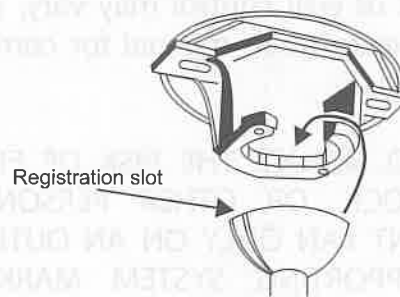

Figure 7
**Step 8.** Place the downrod ball into the hanger bracket socket. (Fig. 7)